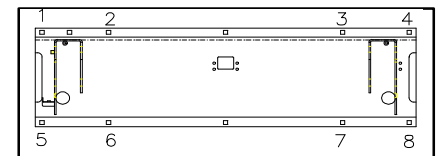

FIGURE 2-5: VAN BASEPLATE HOLES
- 1) Refer to **Figure 2-5**. Mark/drill four 25/64" baseplate assembly mounting holes (1, 2, 3 and 4) through vehicle floor. (On Dodge and GM vans, you must drill through vehicle floor and subframe).